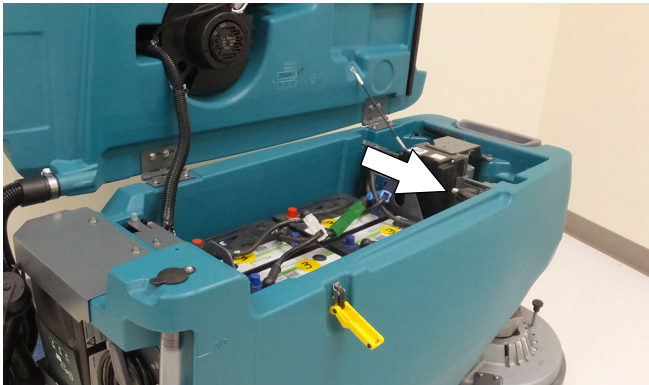

FIG. 92
2. Lift the recovery tank to access the ec-H2O water conditioning cartridge (Figure 92). Drain recovery tank before lifting tank.